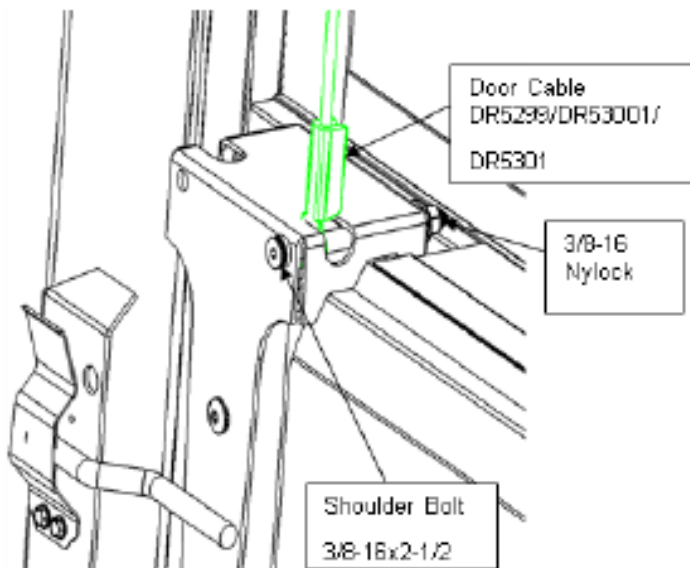

Figure15.Cable Attachment to door
- g. Attach the Door Cables to the lift brackets on the top panel of the PxV door (**SEE FIGURE 15**).